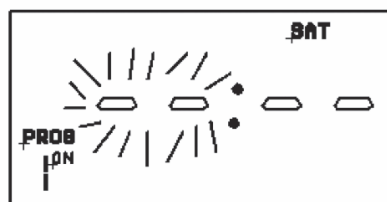

Figure B-9: Setting 'ON' / 'OFF' times (Saturday)
6. Press 'PROG' to scroll through program 2 ON, program 2 OFF, program 3 ON, program 3 OFF, program 4 ON, program 4 OFF, adding in times as required. If you wish to omit programmes just leave dashes in that ON/OFF location. Press 'PROG' to move to the next linked day (SAT follows the 5 day group automatically). Refer to Figure B-9.